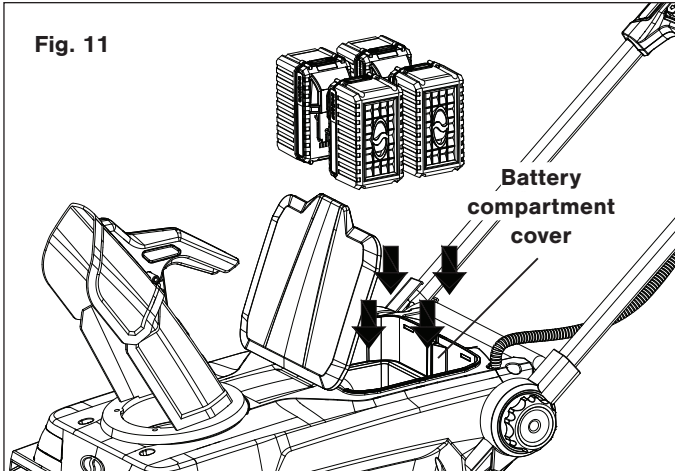

Fig. 11
1. Open the battery compartment cover and insert the four batteries in until they click into place (Fig. 11). Close the battery compartment cover.